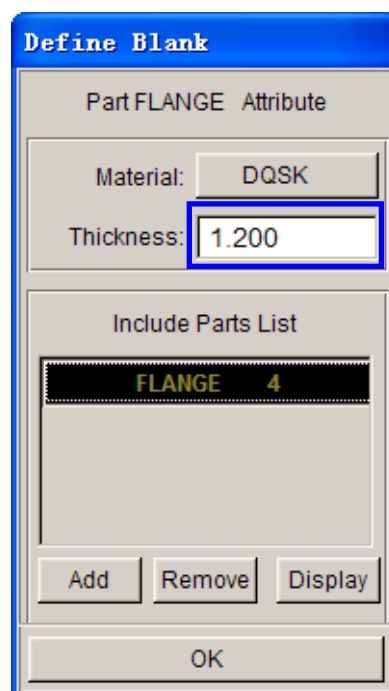

Figure 1.28: Define thickness
- 7) Then select Thickness edit box, define blank thickness as 1.2 mm. See figure 1.28.